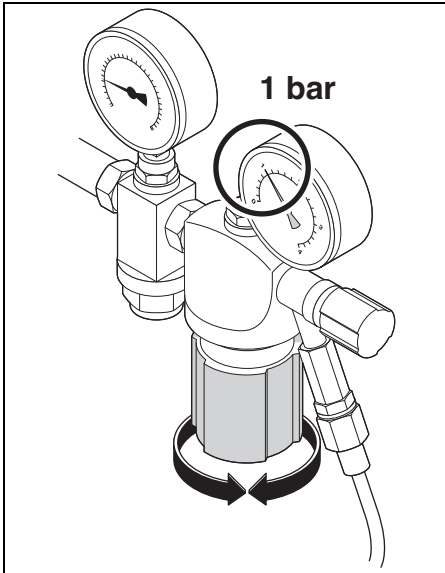

Fig. 34
- ▷ Readjust the operating pressure to 1 bar during operation (see figure 34).